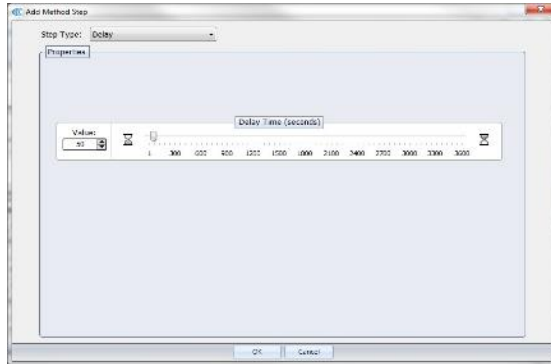

Figure 4.4 - Add a Delay Step
- 5.1.2 Choosing a *Delay* step introduces a fixed time delay into a method. User can set the sample to settle between two different treatment steps. The delay is specified in seconds. See Figure 4.4.